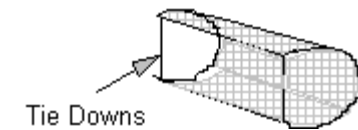

Figure 2. Tie downs on gillnet gear.
*Tiedown:* Vertical line that connects the floatline and leadline as a way to create a pocket or bag of netting. The tiedown length is the working height of the net, not to be confused with the net height (see FIGURE 2).